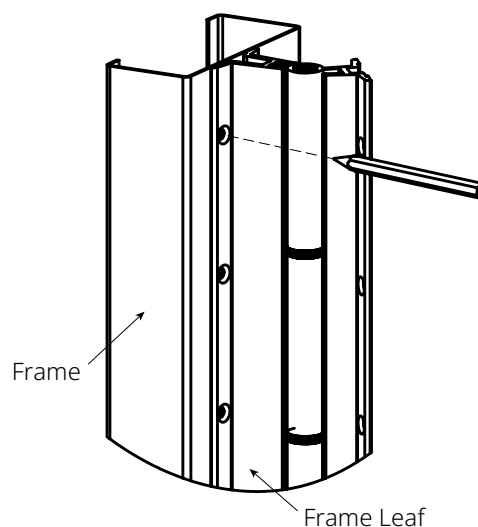

Fig. 2
- D. Mark and center punch each hole on frame with hinge held firmly in place (Fig. 2). For ease of installation, a center punch can help center hole so that fasteners will enter straight. Remove hinge from frame and prepare to drill frame.